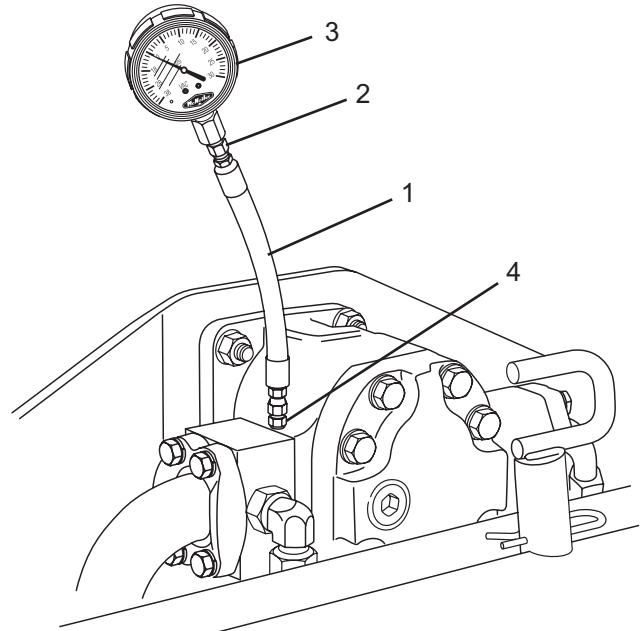

Figure 53
1. Install a 10 in. hose (Figure 53, Item 1), a female to male 37° JIC adapter (Figure 53, Item 2), a 30 in. vacuum gauge (Figure 53, Item 3). Install the proper adapter (Figure 53, Item 4) to the hose. Install the gauge assembly to the port. Tighten all fittings.